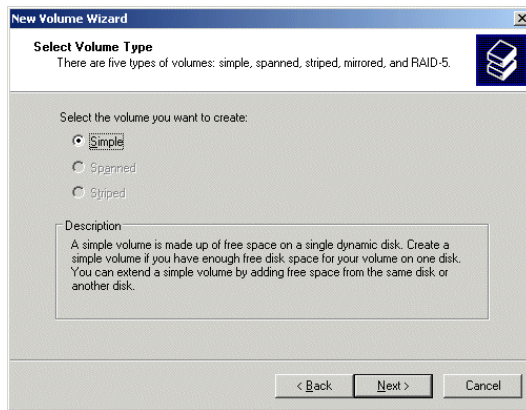

Figure 3-29
- 24) Click the **Next** button to be presented with the **Select Volume Type** screen. Click the **Simple** option as shown in Figure 3-29.